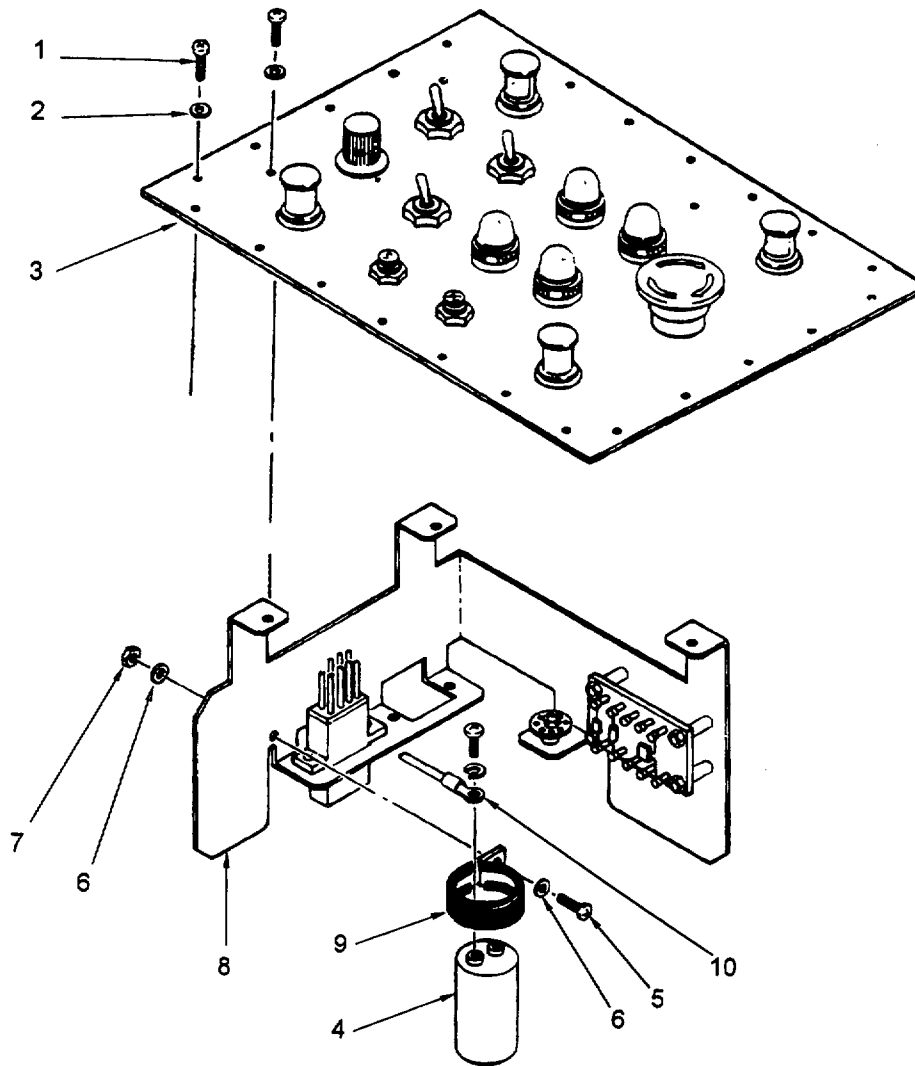

Figure 5-14. Capacitor C1 Replacement
5.7.5 Replace Capacitor C1. (Refer to figure 5-14.)